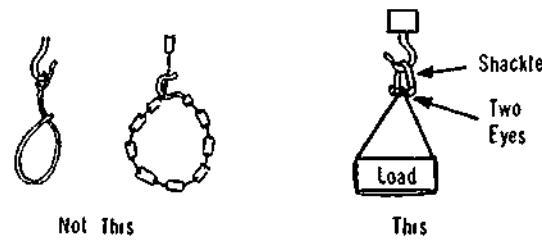

Figure 2-6. Proper Sling or Chain Arrangement
f) Do not choke a load with a lift chain, rope, or cable. Use the correct sling or chain arrangement as shown in Figure 2-6.